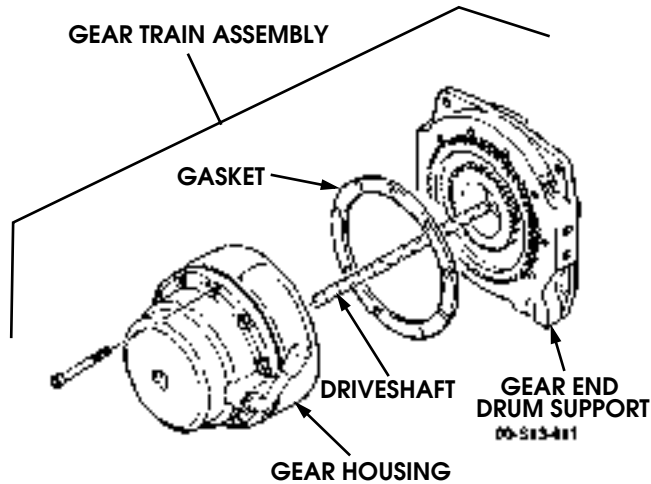

Figure 9-192: Gear Train Assembly
13. Remove driveshaft from gear train assembly (Figure 9-192).
15. Remove gasket from gear end drum support. Discard gasket (Figure 9-192).